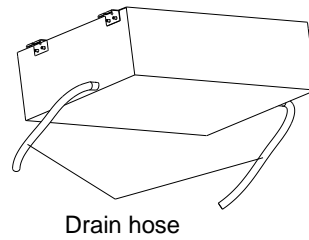
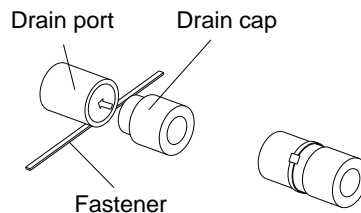

Figure 3-1-10
Figure 3-1-12
- (5) Use a suitable drain hose, and see Table 3-3-3 for its size.
- (6) There is a drain port on both the left and right sides. Select the drain port to match the local conditions (Figure 3-1-10).
- (7) When the unit is shipped from the factory, the drain port is defaulted to be the one on the left side (electric box side), the port on right side has been plugged.
- (8) When using the drain port on the right side of the unit, reinstall the drain cap to the left side drain port (Figure 3-1-12).